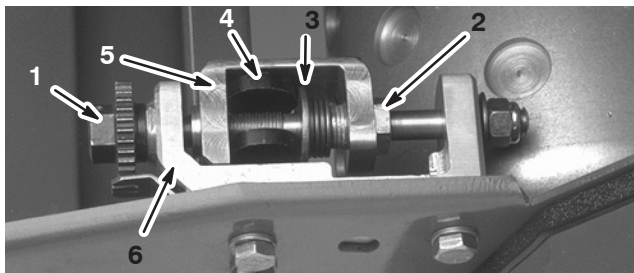

Figure 45
1. Turn the bedbar adjuster screw, counterclockwise, until the channel bottoms out in the adjuster frame (Fig. 45).
2. Using a 7/8 in. standard wrench, back out the spring tension screw until the thrust washer is no longer tensioned against the bedbar (Fig. 45).
3. On each side of the machine, loosen the jam nut securing the bedbar bolt (Fig. 45).
4. Remove each bedbar bolt allowing the bedbar to be pulled downward and removed from the machine. Save the 2 nylon and 2 stamped steel washers on each end of bedbar (Fig. 45).